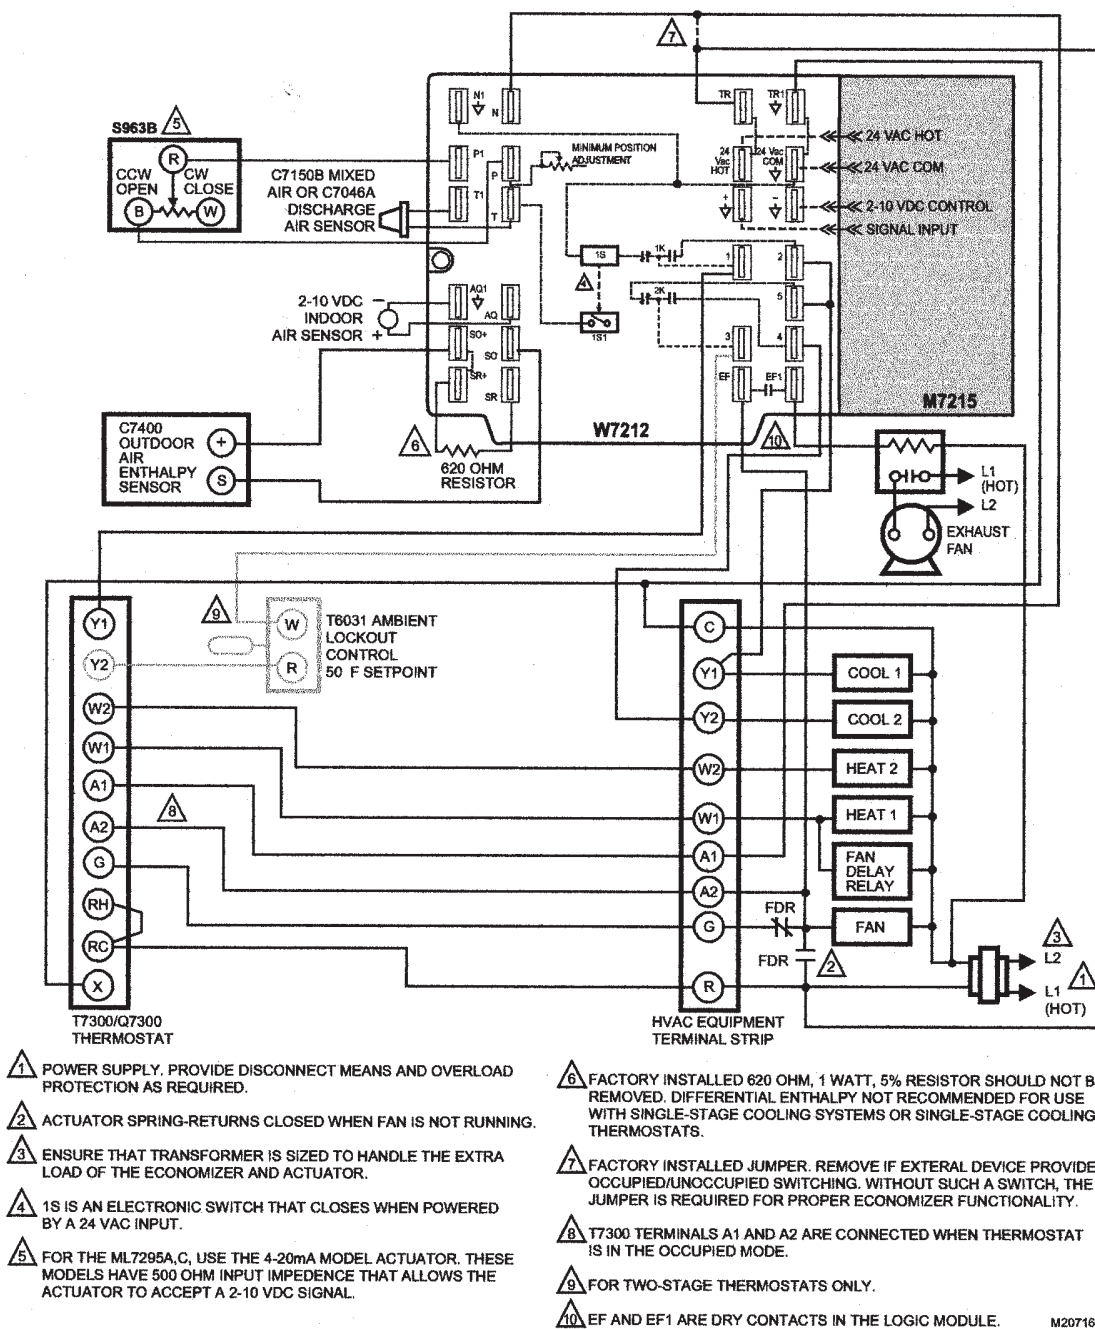

Fig. 9. W7212 used with M7215 Damper Motor.
2. Refer to Fig. 9 through 12 for typical wiring diagrams.